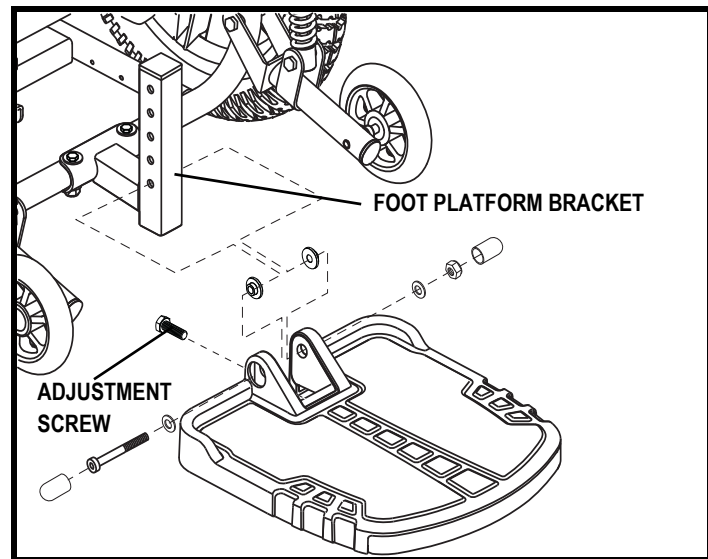

Figure 15. Foot Platform Adjustment
1. Remove the hardware from the foot platform bracket as shown in figure 15.
You can adjust the angle of the foot platform with a wrench. See figure 15.